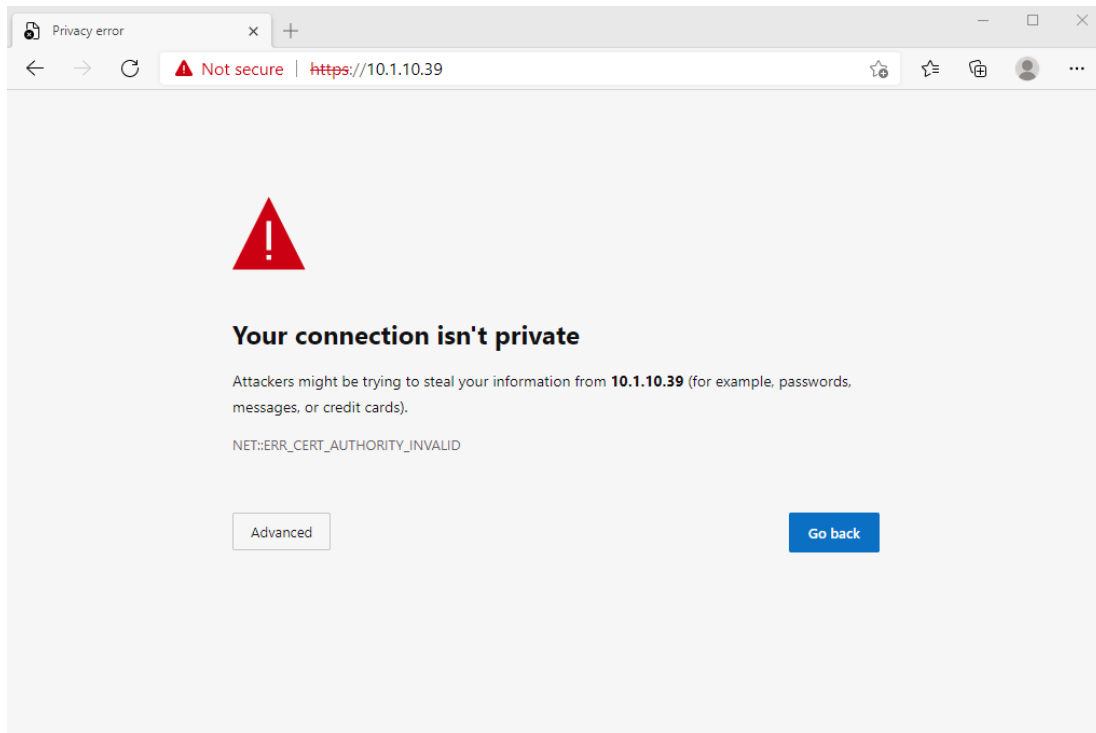

Figure 138: Accessing the built-in web server ("This site is not secure").
4. The browser might show you a warning about an invalid web server certificate, as illustrated in Figure 138. Make sure, that you have typed in the correct IP address.